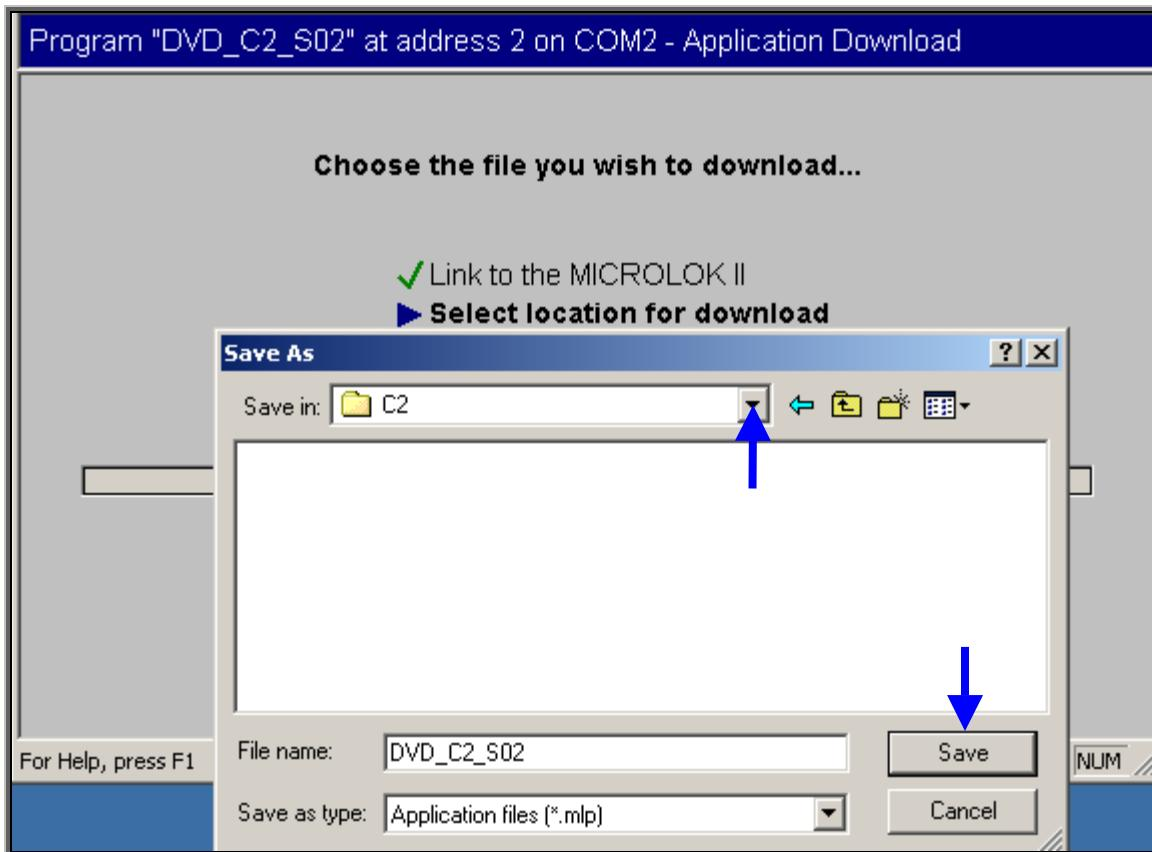

Figure-5.10.2
- ❖ Mini active window “Save As” appears as shown in Figure-5.10.2.